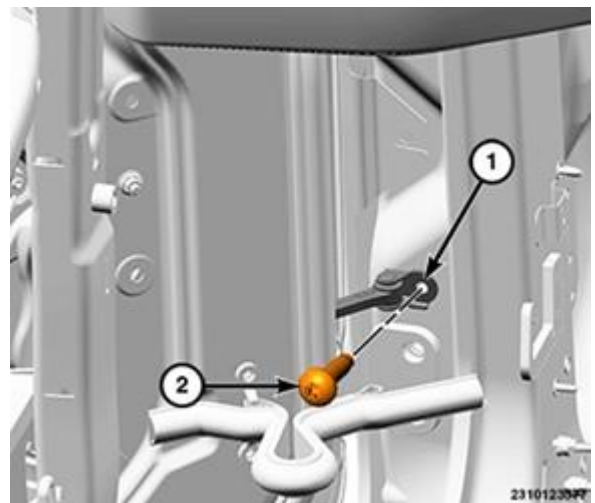

Figure 26 – Door Check Bolt
22. Remove the bolt (2) securing the door check (1) (Figure 26).